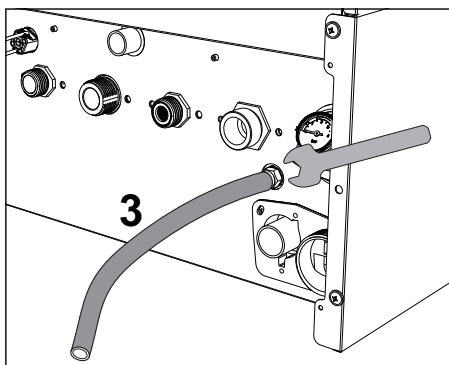

fig. 16
To drain the system, attach a rubber hose (ref. 3 - fig. 16) to the circulating pump drain valve connection.